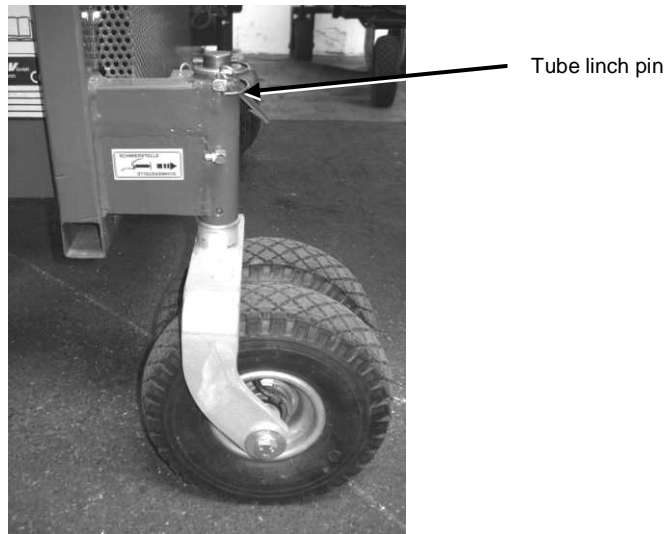

Fig. 31: Pivot wheel
1. Turn the pivot wheels to the rear and secure them with the appropriate tube linch pins (see Fig. 31).